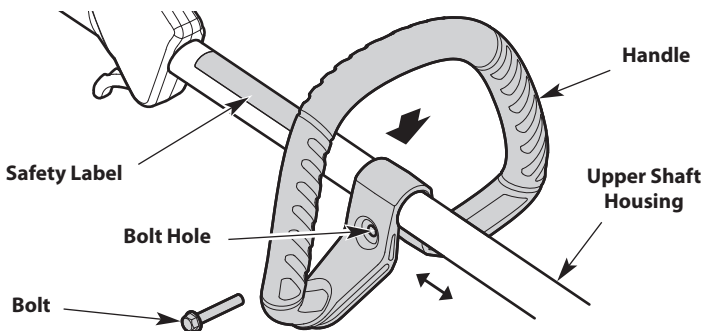

Fig. 8
1. Push the handle down onto the upper shaft housing (Fig. 8). Make sure the bolt hole faces to the right (Fig. 8).
2. Insert the bolt into the bolt hole and push it through (Fig. 8). Tighten the bolt with a flat-head screwdriver, but do not tighten the bolt completely.
3. Hold the unit in the operating position (Fig. 17). Move the handle up or down the upper shaft housing to a comfortable location (Fig. 8). Make sure the handle is positioned beyond the end of the safety label (Fig. 8).
1. Loosen the bolt with a flat-head screwdriver (Fig. 8).
2. Hold the unit in the operating position (Fig. 17). Move the handle up or down the upper shaft housing to a comfortable location (Fig. 8). Make sure the handle is positioned beyond the end of the safety label (Fig. 8).